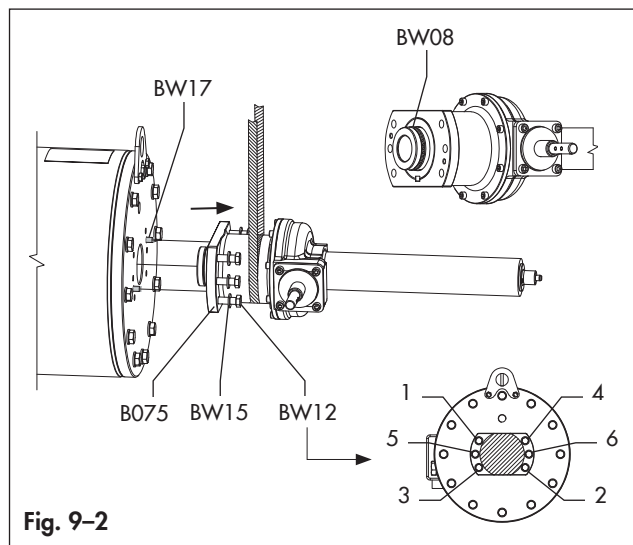

Fig. 9-2
- Unscrew the bolts (BW12) following the sequence as per Fig. 9-2 and carefully remove the bevel gear from the actuator making sure not to damage the o-ring (BW08).